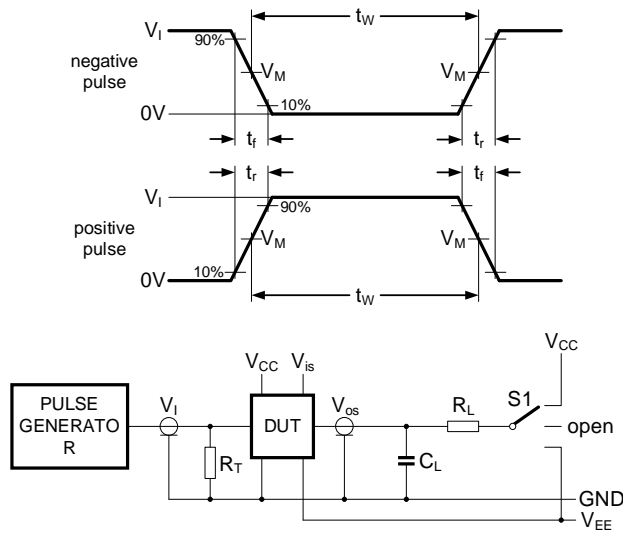

Figure 8-11 Test circuit for measuring switching times
- (1) t_{pd} is the same as t_{PHL} and t_{PLH}.
- (2) t_{on} is the same as t_{PZH} and t_{PZL}.
- (3) t_{off} is the same as t_{PHZ} and t_{PLZ}.
- (4) For test circuit see Figure 8-11.
- (5) V_{is} is the input voltage at a Yn or Z terminal, whichever is assigned as an input.
- (6) V_{os} is the output voltage at a Yn or Z terminal, whichever is assigned as an output.